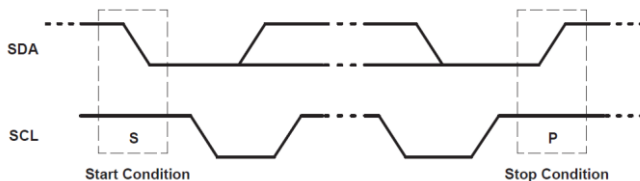

Figure 6.2 Definition of Start and Stop Conditions
Both data and clock lines remain high when the bus is not busy. A high-to-low transition of the data line while the clock is high is defined as the start condition (S). A low-to-high transition of the data line while the clock is high is defined as the stop condition (P) (see Figure 6.2).